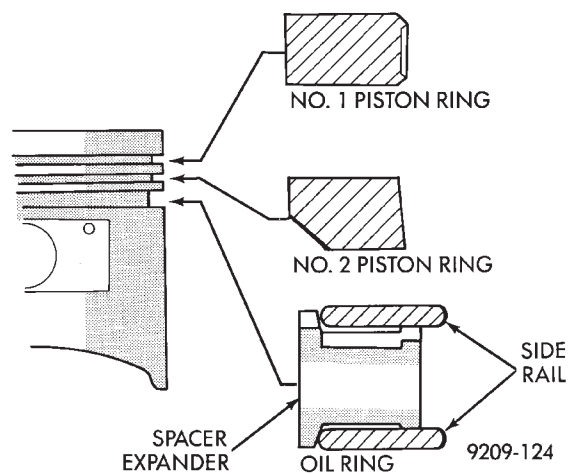

Fig. 10 Piston Ring Installation
(1) The No. 1 and No. 2 piston rings have a different cross section. Install rings with manufacturers I.D. mark facing up, to the top of the piston (Fig. 10).